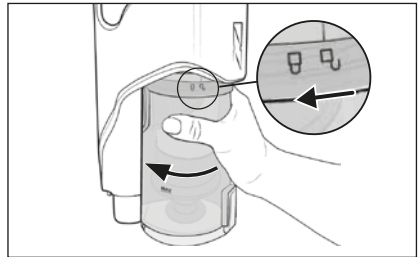

Fig. 17
- 2) To remove the dust container 6 from the appliance, turn it towards the symbol  (open) until it can be detached from the appliance (see Fig. 17).